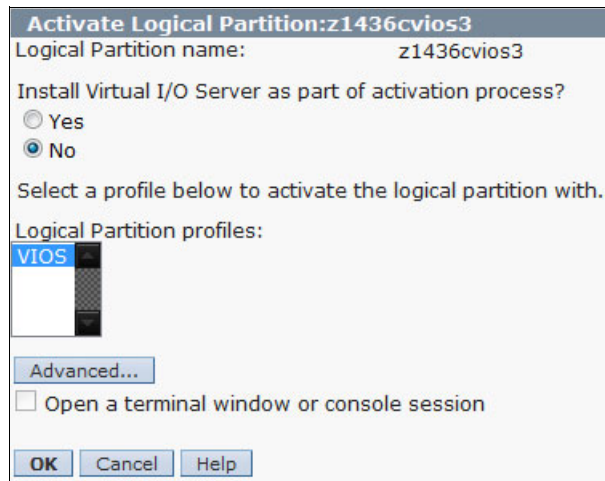

Figure 3-9 Starting the VIOS partition without starting the installation wizard
2. In the Activate Logical Partition window (see Figure 3-9), click **Advanced**. Select **SMS** and click **OK** to change the boot mode. Activate the VIOS partition by clicking **OK**.